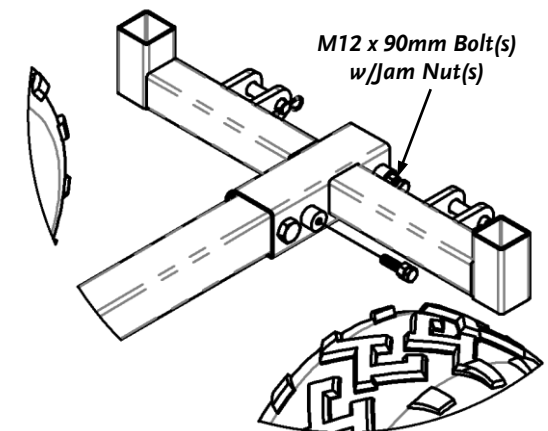

Figure 40
3. Install two M12 x 90mm Bolts w/Jam Nuts (**Figure 40**) in the Rear Support and tighten the Bolts then the Jam Nuts using an 18mm Socket and 18mm Wrench.